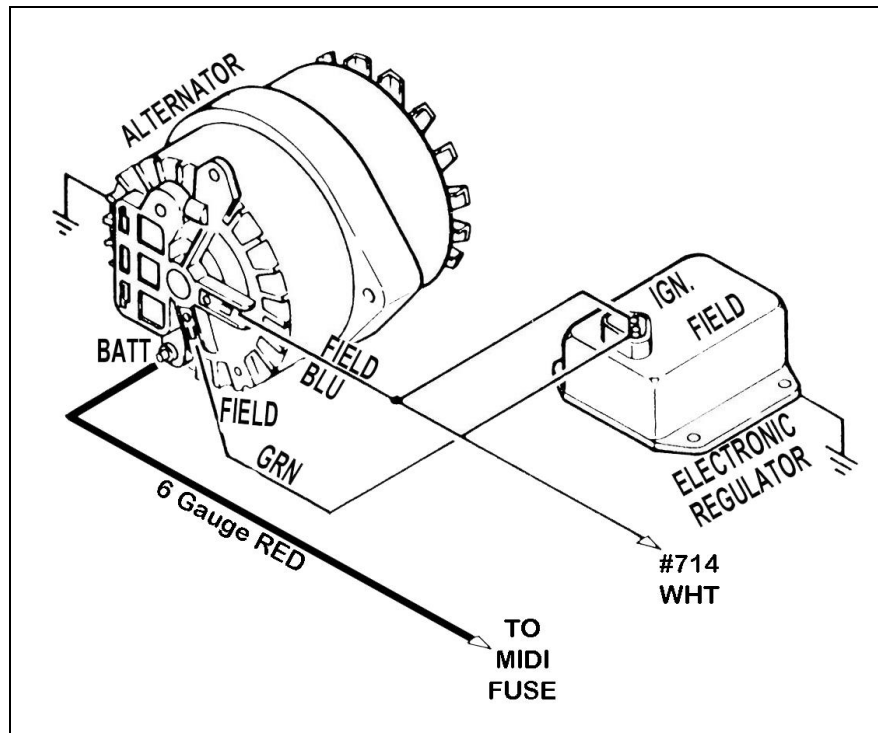

Figure 11.1 Mopar Alternator
11.1 Mopar Alternator. See Figure 11.1.
Note: *Your Alternator may not appear exactly as represented in Figure 11.1. The circuits are wired the same way, though.*
11.1.1 Mopar uses one of two kinds of voltage regulators: An electronic regulator and a mechanical one. The electronic voltage regulator is represented in **Figure 11.1**. It does not matter how the two terminals are connected, so long as they are BOTH connected. The mechanical regulator has terminals marked "F" (Field) and "I" (Ignition). In contrast to the electronic regulator, it DOES make a difference how these are connected.
11.1.3 Connect ENGINE SECTION A wire #714 (wht) to the Alternator Field (F) terminal as shown in **Figure 11.1**.
11.1.4 Connect a 14-gauge wire from the other Alternator Field terminal (as shown in **Figure 11-1**) to the second terminal of the ELECTRONIC Voltage Regulator OR terminal F of the MECHANICAL Voltage Regulator. On existing Mopar harnesses, this would be a green wire. Also connect a 14-gauge wire from this terminal to chassis ground.